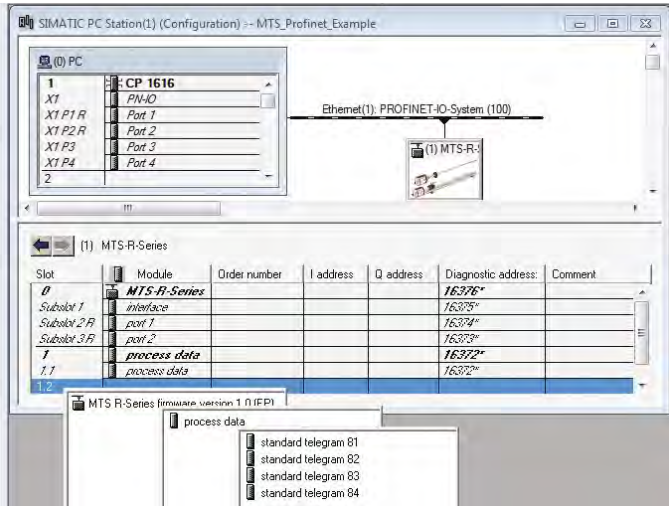

Fig. 77: Select standard telegram (source: Siemens)
5. Transfer your settings to the control system as described below (Fig. 77):